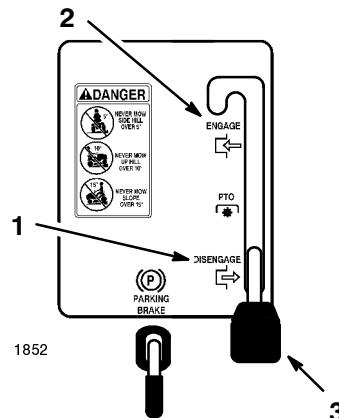

Figure 4
2. Move the blade control (PTO) to "ENGAGED" (Fig. 4).
2. Move the blade control (PTO) to "DISENGAGED" (Fig. 4).